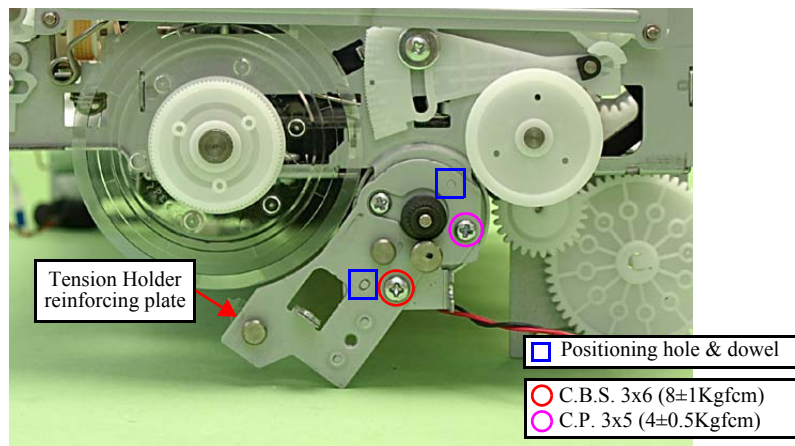

Figure 4-120. Removing the PF Motor (3)
- Align the positioning holes (x2) of the Holder with the dowels (x2) of the Main Frame. (See Fig. 4-120.)